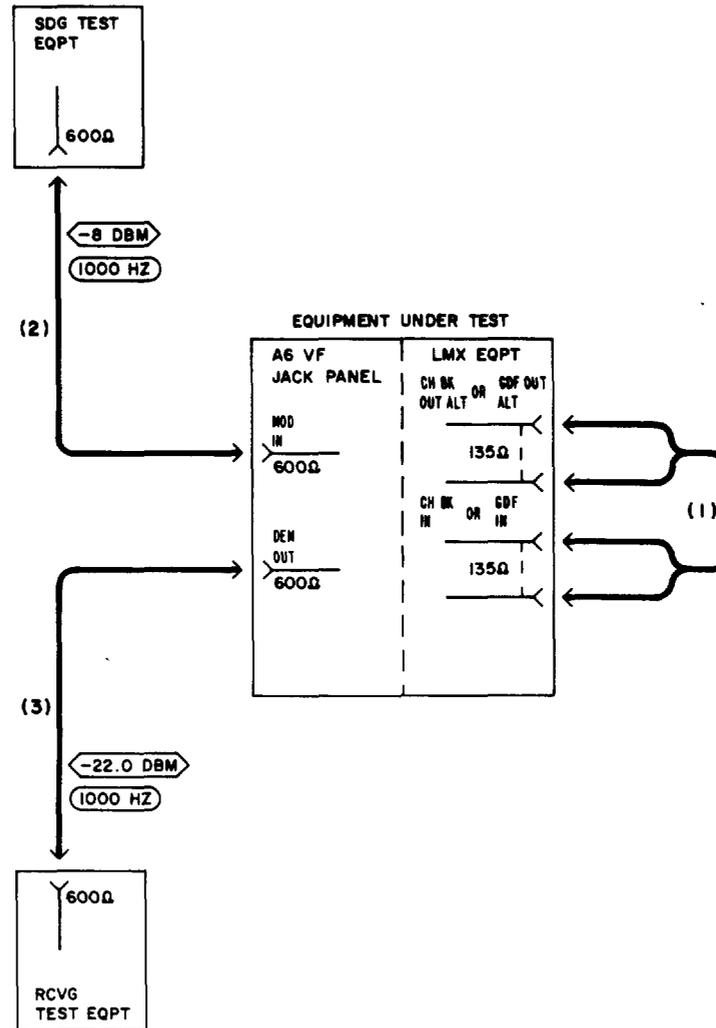

Fig. 19—Patching Diagram—Preparation—Unequal-Level Looping
3	At the LMX equipment, connect the CH BK OUT ALT (LMX-2) or GDF OUT ALT (LMX-3) jack to the CH BK IN (LMX-2) or GDF IN (LMX-3) jack [patch (1), Fig. 19].
4	Connect the STE to the MOD IN jack for Channel 1 of the channel bank under test [patch (2), Fig. 19].
5	Connect the RTE to the DEM OUT jack for the channel under test [patch (3), Fig. 19].
7	Remove patches (2) and (3), Fig. 19.